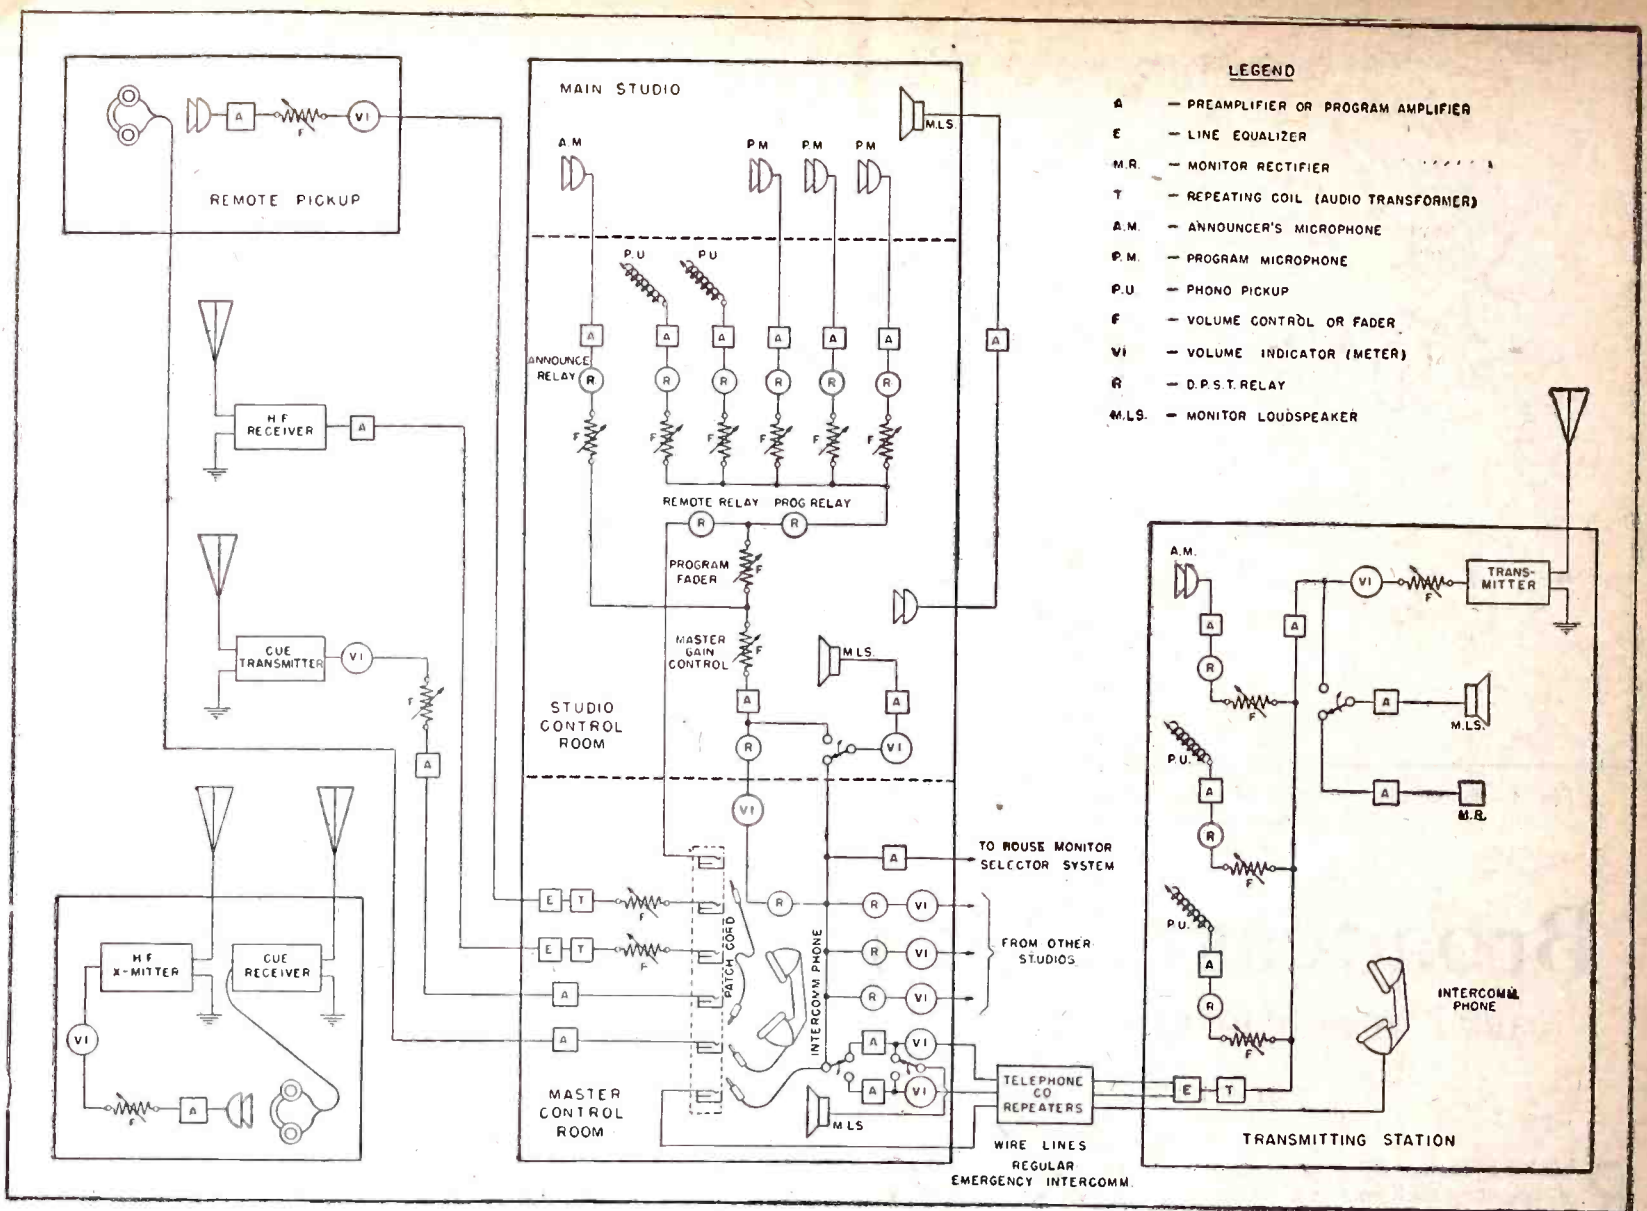

Fig. 2—A special drawing showing the control, pre-amplifier and other equipment as employed in a modern medium-power broadcast station,
- Fig. 2 shows a simplified schematic diagram of this equipment in operation at a typical medium-power broadcast station. Such an arrangement is of course a generalization, as specific requirements at various stations may determine many deviations from the flexible setup shown.